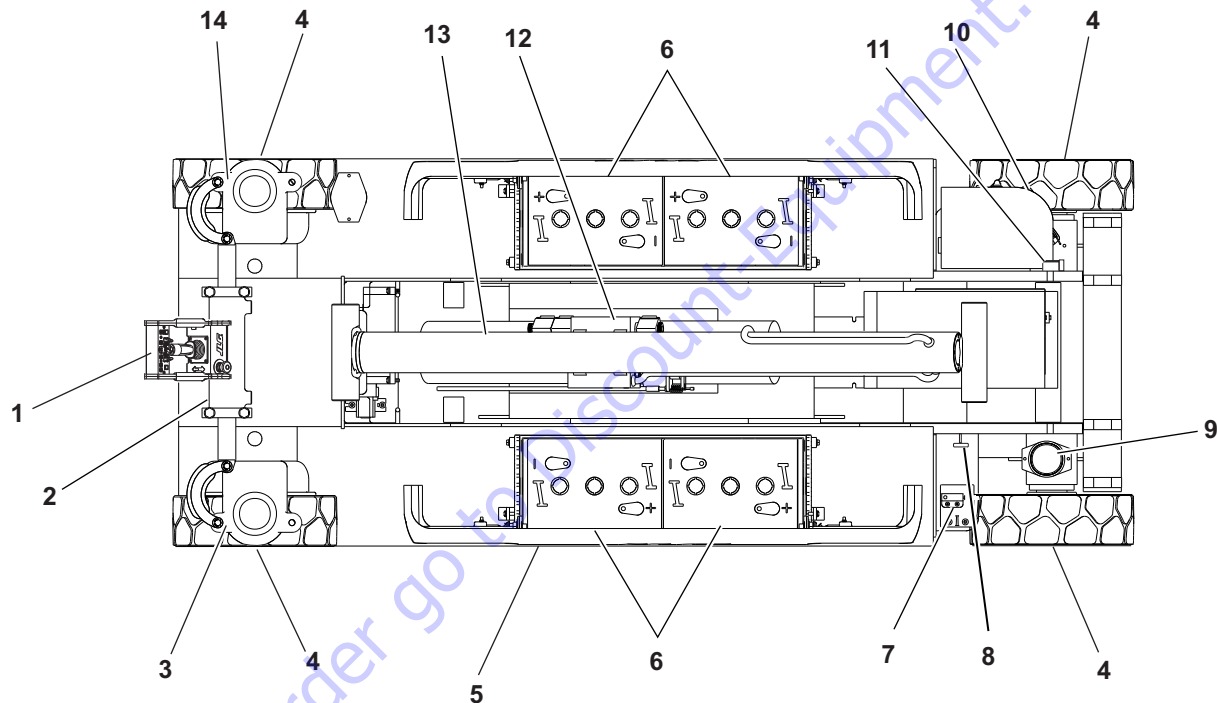

Figure 2-1. Daily Walk-Around Inspection - Sheet 1 of 2
5. **“Walk-Around” Inspection** – Refer to Figure 2-1